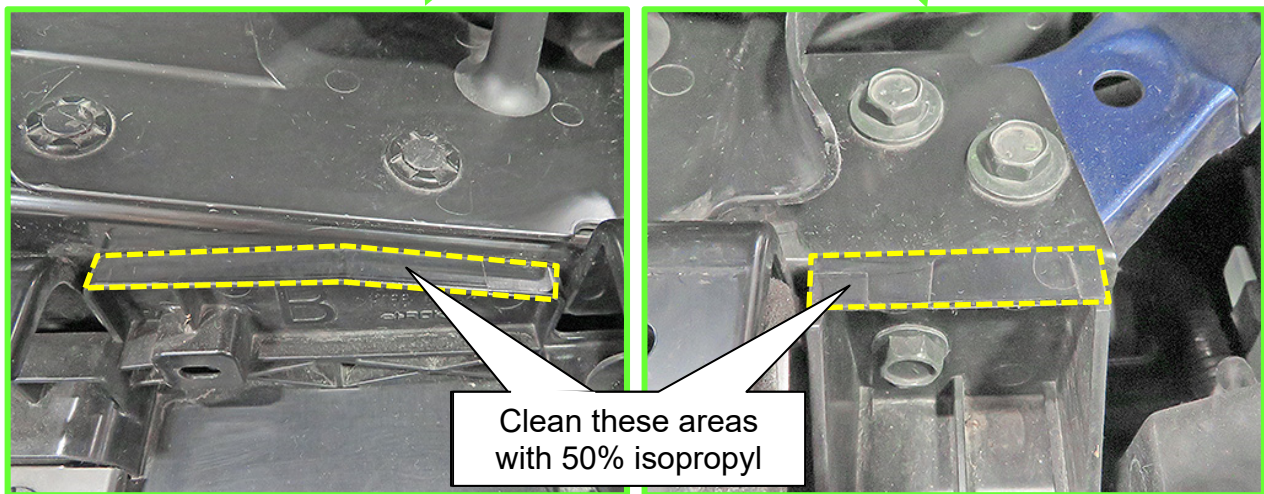

Figure 3
6. Clean the areas of the radiator mounting bracket, shown highlighted in Figure 3, with 50% isopropyl alcohol.